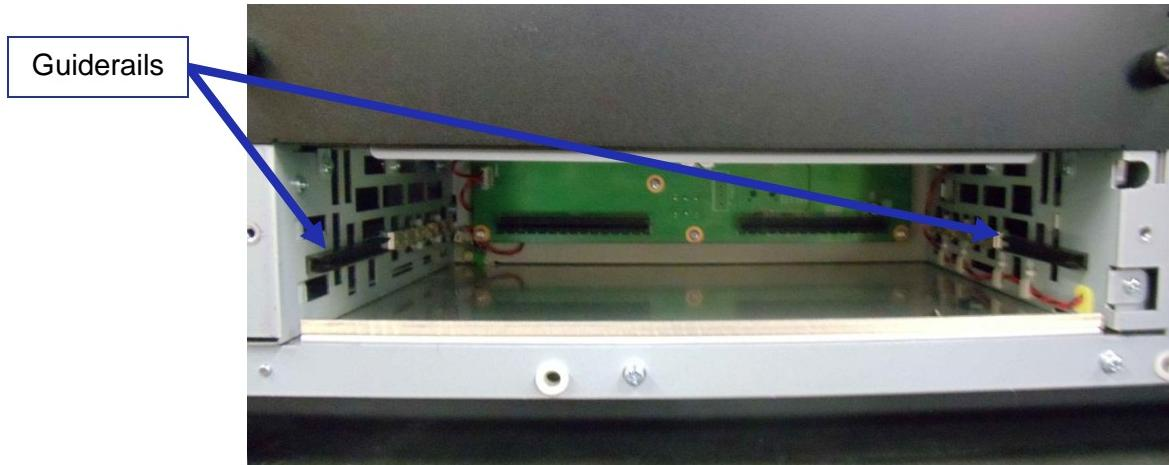

Figure 12: Empty Slot
- The media block slot should now be empty (Figure 12).
- Gently place the IMS1000 board into the projectors media block slot guiderails on the inside of the slot (Figure 12 and Figure 13).